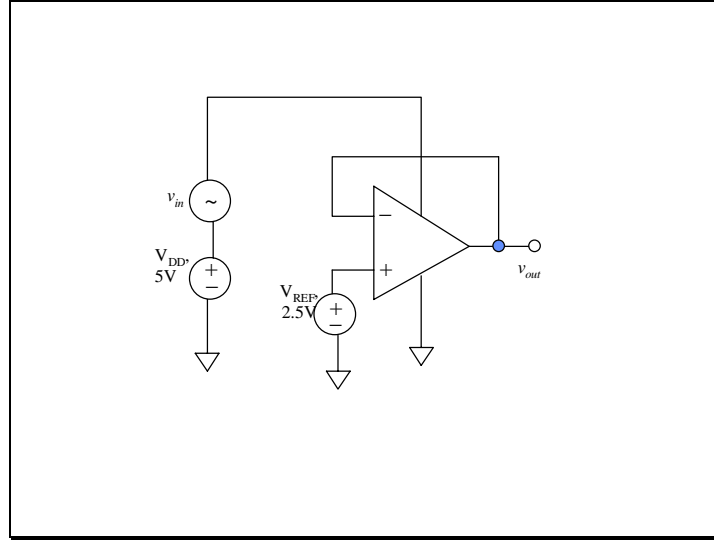

Figure 3.3a: PSRR Measurement Circuit
1. Setup the circuit shown in Figure 3.3a.